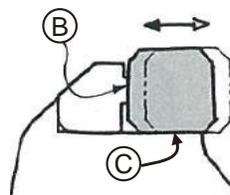

Fig. 3
- As shown in Fig.3, rest the insert on the surface (C) of the holder, slide it along sideways and press it firmly on to the locator face (B) several times.